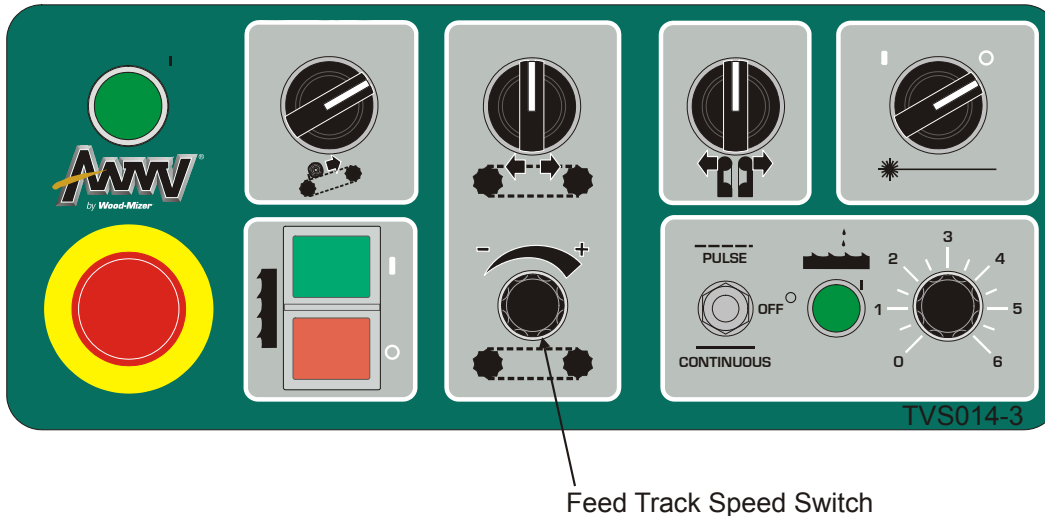

**FIG. 2-8**
**See Figure 2-8.** After the saw heads have been successfully started, start the feed track motor. To start the feed track motor, turn the Feed Track Switch to the right to start the track forward, turn the switch to the left to start the track backward. Return the Feed Track Switch to the “0” position to stop the track.